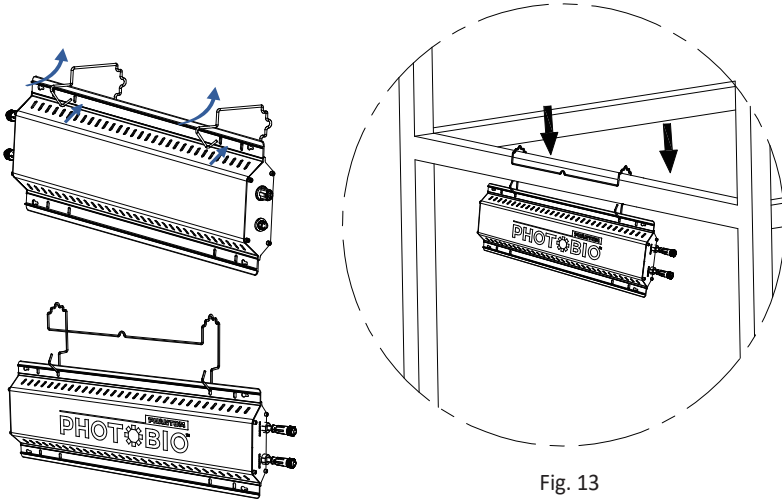

Fig. 13
1. Hook the driver box with driver mounting hanger, and mount the driver onto the rack. as Fig.13.